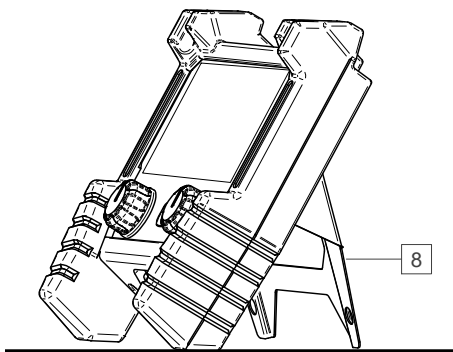

Figure 3
- Bracket [8], which is used to support the device on a flat surface, e.g. a welding table (Figure 3).